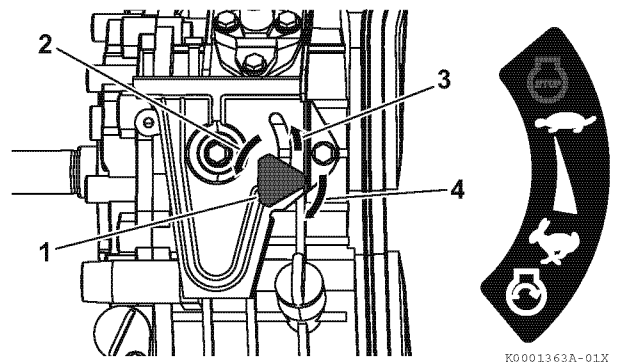

Figure 20
3. If your engine speed control is similar to **Figure 20**:
- 1- Turn the engine speed control knob (1, **Figure 20**) to the left (2, **Figure 20**).
- 2- Slide the engine speed control knob to the STOP position (3, **Figure 20**).
- 3- Turn the engine speed control knob to the right (4, **Figure 20**) to tighten it.